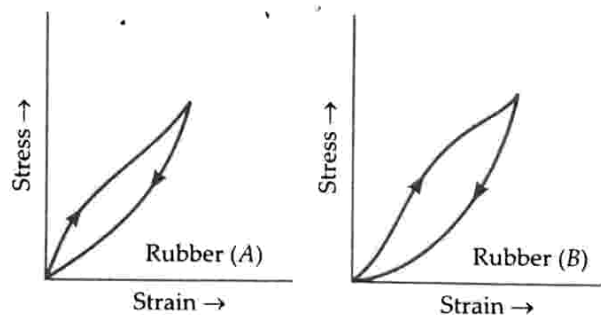

Fig. 9.26
Problem 5. Two different types of rubber are found to have the stress-strain curves as shown in Fig. 9.26.
- In which significant ways do these curves differ from the stress-strain curve of a metal wire shown in Fig. 9.26 ?